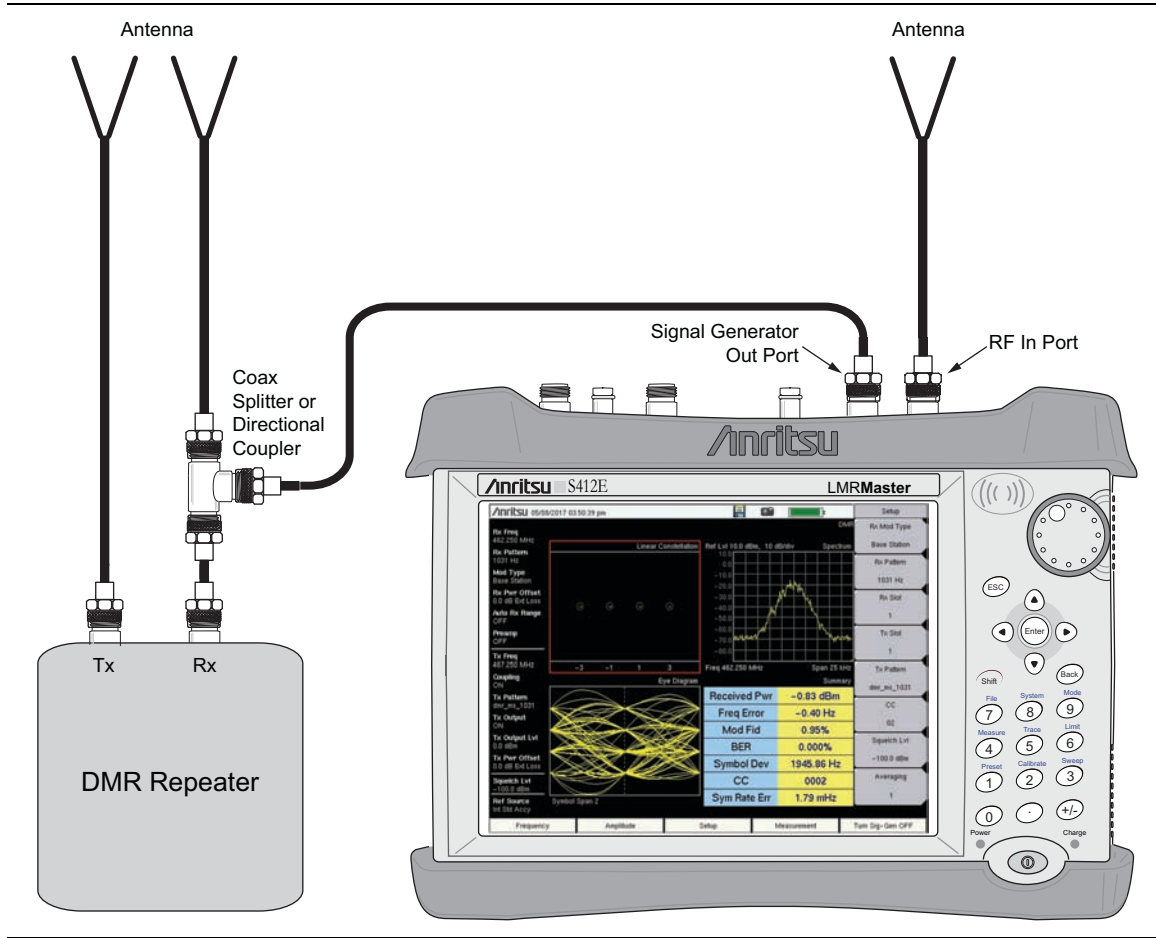

Figure 8-11. DMR Repeater Sensitivity Measurement Setup Example
1. Connect the equipment as shown in Figure 8-11:
9. Listen for a steady tone from the mobile station and note the BER measurement on the LMR Master DMR Summary screen (see Figure 8-11). The BER % should be within specification.